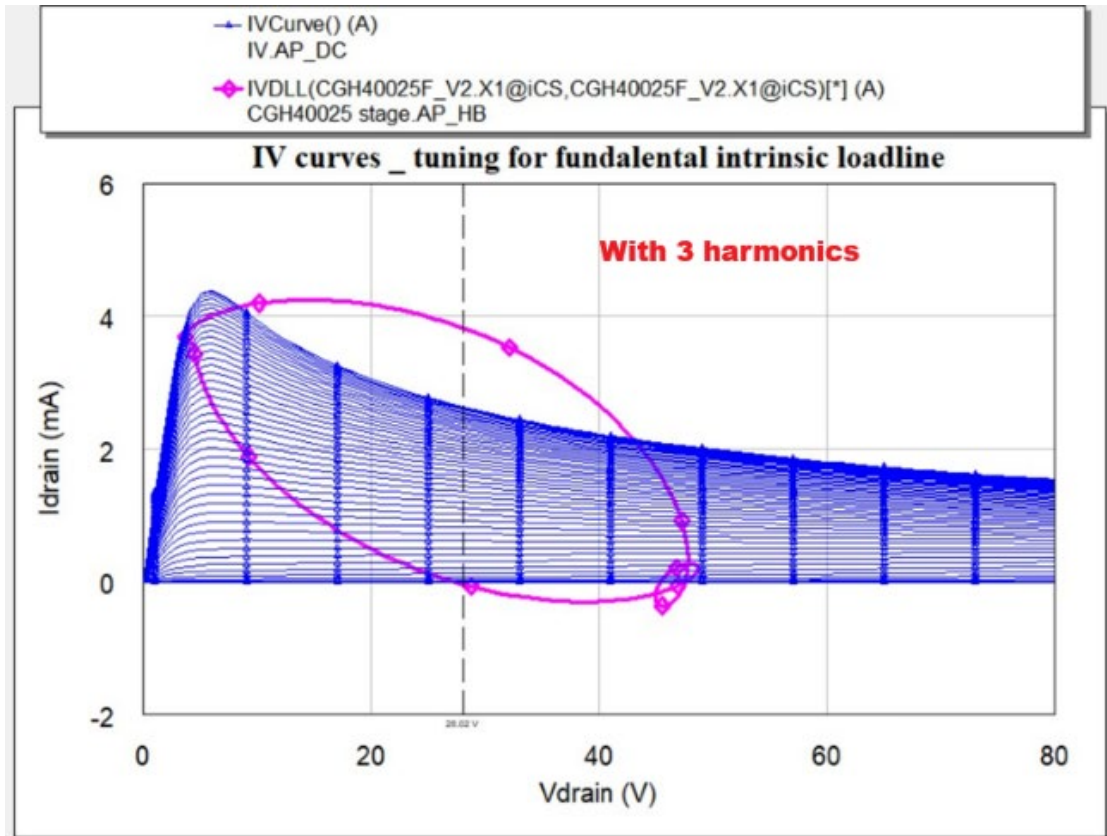

Figure 8
8. Increase the harmonic tones to 3, simulate to get the result of Figure 8 which shows the complex load-line formed by the tones of the fundamental and 2nd and 3rd harmonic frequencies.